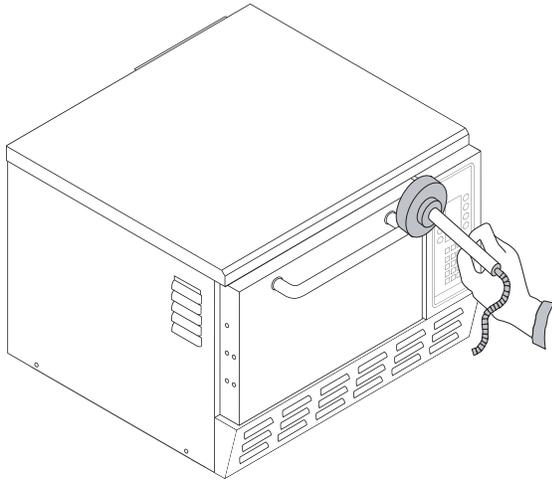

FIGURE 20: Microwave Survey Meter Placement
3. Position the Microwave Survey Meter as shown in Figure 20.